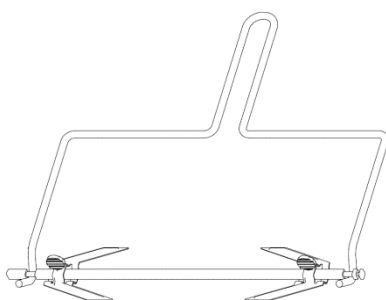

Fig. 8
- Always use the rotisserie handle to remove the spit from the oven when hot. Place the hooked ends of the rotisserie handle under the spit and into the notches (Figs. 8 & 9) and lift out.